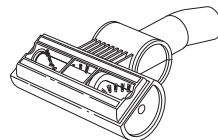

Fig. 25
- 3 Turn the turbo brush over to inspect the rotating brush and cut away any build-up of hair or string wrapped around the rotating bristle brush with scissors. **(Fig. 25)**